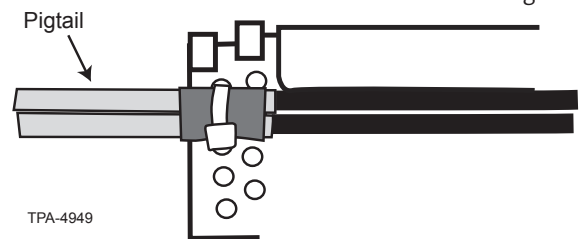

Figure 6
**IMPORTANT:** Multiple pigtails may be secured with a single cable tie. Wrap 1.5 in of vinyl tape around the pigtails as protection. Position cable tie buckles inside the tray and to one side of the cable bundle to avoid interference with the cover (Figure 6).